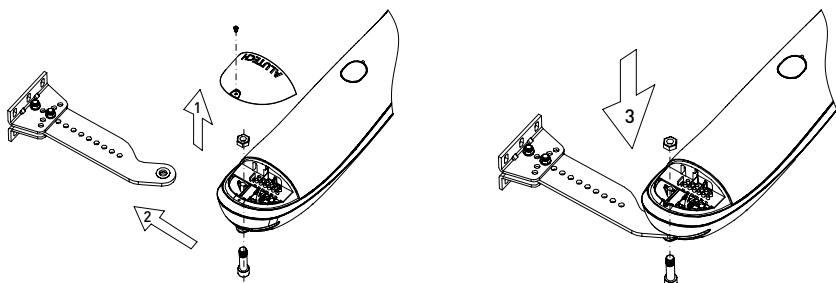
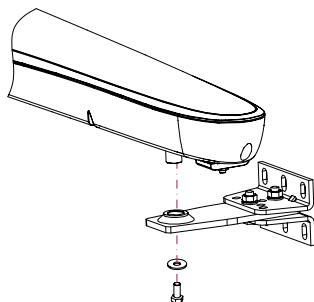

Figure 12. Mounting the drive on a rear fitting
Figure 13. Mounting the drive on a front fitting
- Mount the drive on the rear (*fig. 12*) and front (*fig. 13*) fittings. Prior to mounting the drive on the front fitting, lubricate the fitting surface of its connector with grease. To mount the drive on the front fitting, release the drive (section '4.3. Manual release') and move the leaf manually.